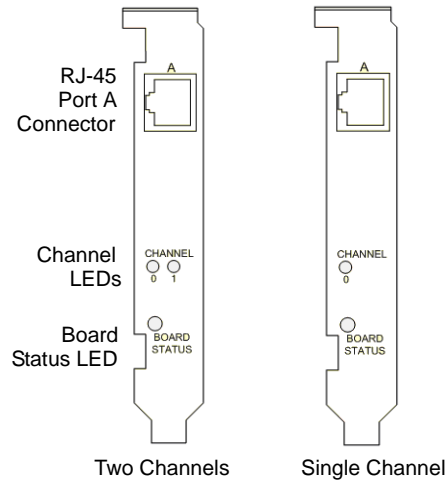

Figure 3. End Panel Connector and LEDs
1. Plug one end of the cable into the RJ-45 telephone connector on the board (see Figure 3 to locate connector).
The LEDs on the mounting bracket provide information about the status of the different systems on the board. To identify and locate these LEDs, see Figure 3.